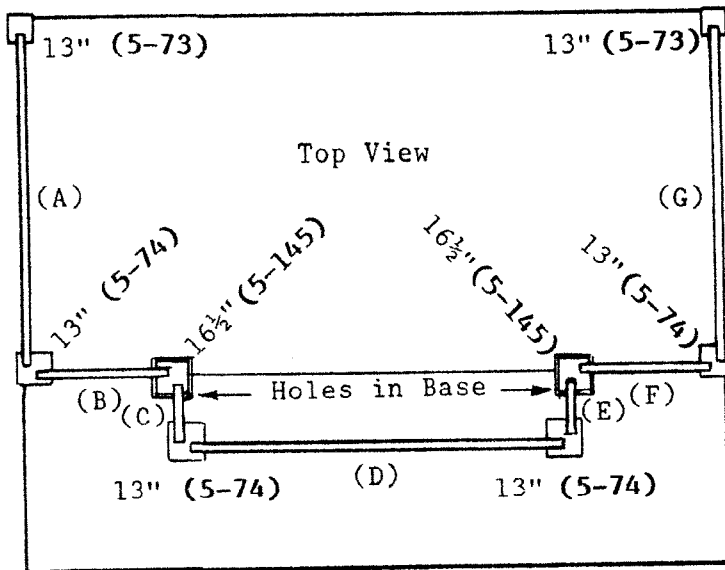

Figure 6
6. Add wallpaper to appropriate wall panels. Refer to Figure 6 for top view wall layout. It will help conceal seams in wall paper if you paint the wall the same color as the background of the wallpaper where the seams will occur.
5. The two 16½" lengths protrude through the holes in the floor. Figure 6.